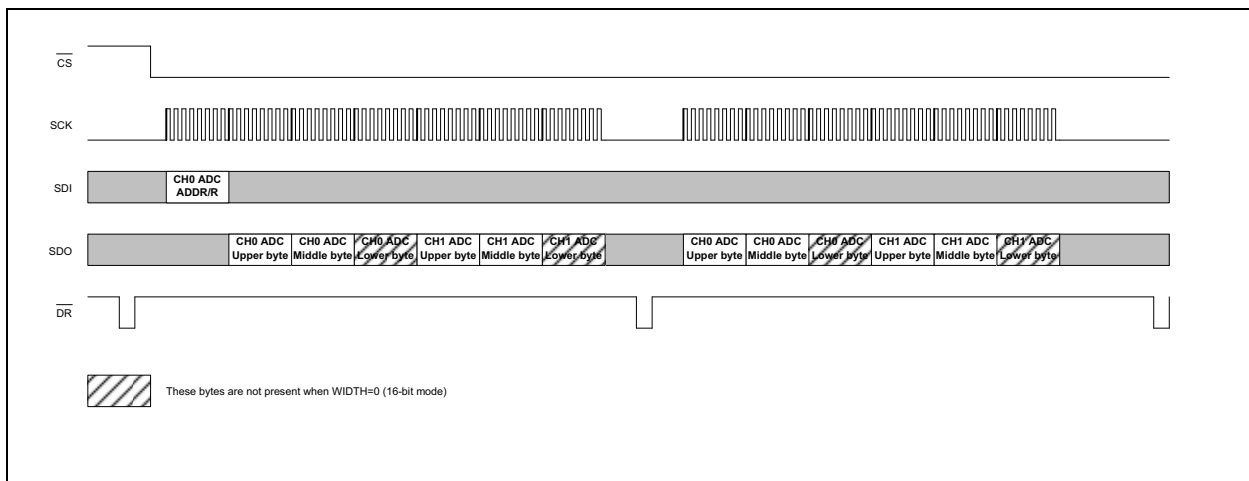

FIGURE 6-6: Typical Continuous Read Communication.
- Write all configuration registers in one communication (see Figure 6-6)
It is recommended to enter into ADC reset mode for both ADCs just after power-up because the desired MCP3901 register configuration may not be the default one and in this case, the ADC would output undesired data. Within the ADC reset mode (RESET<1:0>=11), the user can configure the whole part with a single communication. The write commands increment automatically the address so that the user can start writing the PHASE register and finish with the CONFIG2 register in only one communication (see Figure 6-6). The RESET<1:0> bits are in the CONFIG2 register to allow to exit the soft reset mode and have the whole part configured and ready to run in only one command.